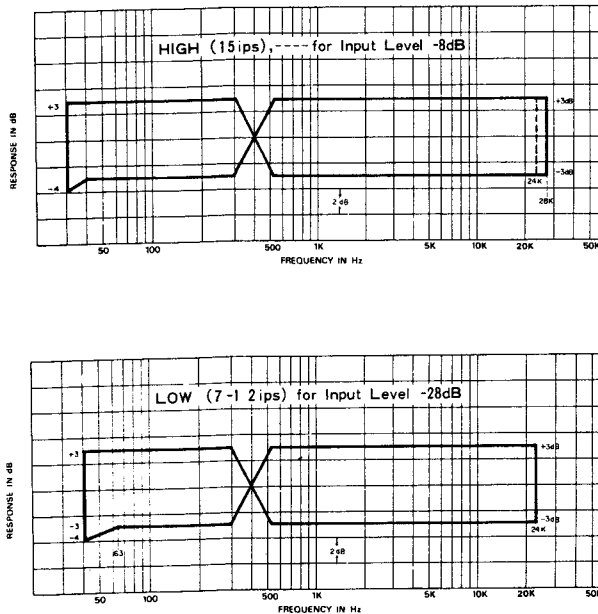

Fig. 10-14 Frequency Response –OVERALL– 2
25. During recording, monitor the Tape signal and adjust equalization VR-552 (on BIAS OSC UNIT) for both channels, and check for readings within the Response Limits chart. See Fig. 10-14.
26. Apply signal swept from 30 Hz to 28 kHz,  $-28$  dB (30.8 mV) and while monitoring the off-the-Tape signal check for readings within the Response Limits chart. See Fig. 10-14.
27. Apply signal swept from 40 Hz to 24 kHz,  $-28$  dB (30.8 mV) and while monitoring the off-the-Tape signal check for readings within the Response Limits chart. See Fig. 10-14.